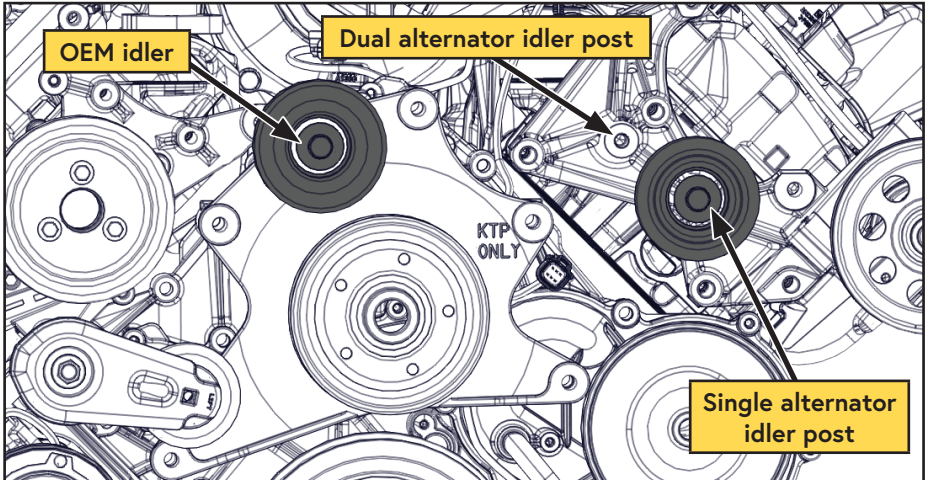
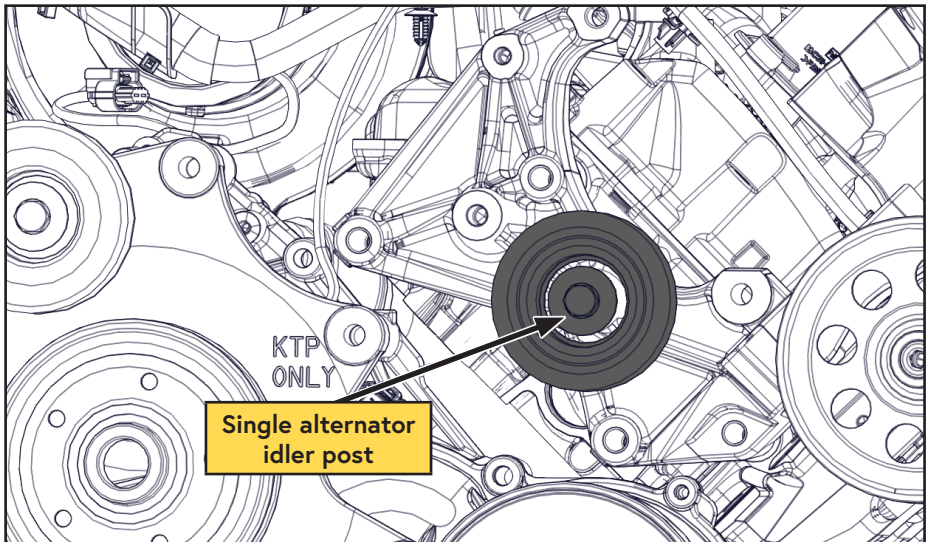
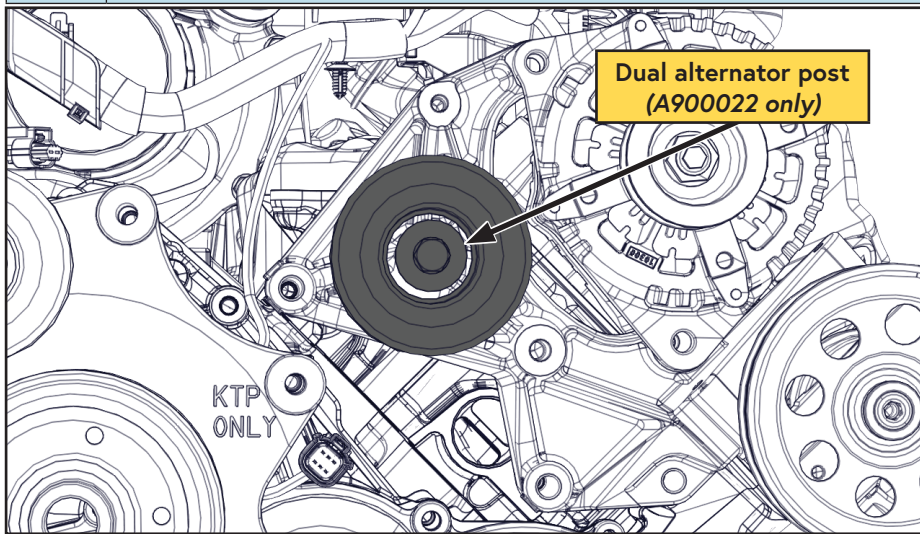

Figure 7 — OEM idlers
Figure 8 — Confirm idler location
Figure 9 — A900022 idler location
- ☐ Confirm the driver side idler is on the appropriate post. Systems converted from dual alternator to single alternator will need to move the idler to the single alternator location (Figure 7, Figure 8).
If installing the VMAC adaptor P/N: A900022 with the steel bracket, install the idler on the dual alternator idler post (Figure 7 on page 13, Figure 9).